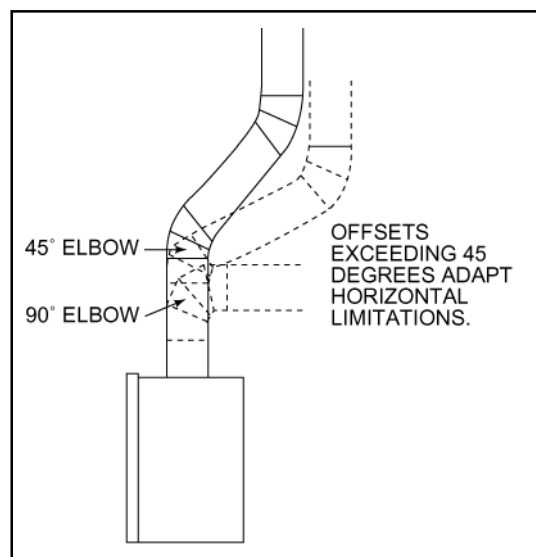

Figure 5 - Using Elbows
- Using Elbows.** Elbows exceeding 45° from the vertical shall be considered horizontal and therefore adapt horizontal run limitations. See Figure 5.